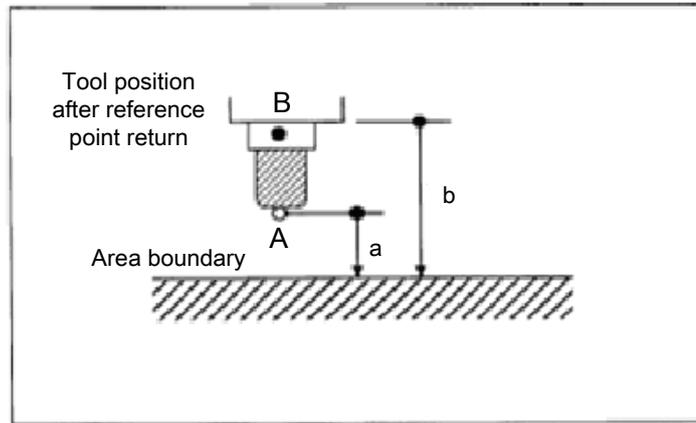

Fig. 2-6-4 To setup forbidden area
3. Detection point in the forbidden area: prior to the programming for forbidden area, please confirm the detection point (the top of the tool nose or tool collet). As is shown in Fig.2-6-4, if the detection point is A (tool nose), the distance "a" should be used as the data for storage detection; if the detection point is B (tool collet), the distance "b" should be used as the data for storage detection. When the detection point is A (tool nose), and the tool length varies with the tool, the forbidden area should be set up according to the longest tool, as such may ensure the safe running.